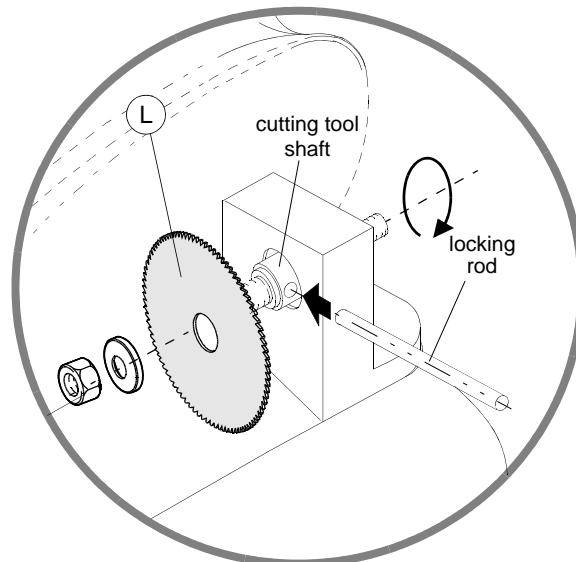

Fig. 19
- 1) Place the locking rod (provided) into the slot on the cutting tool shaft (fig. 19).